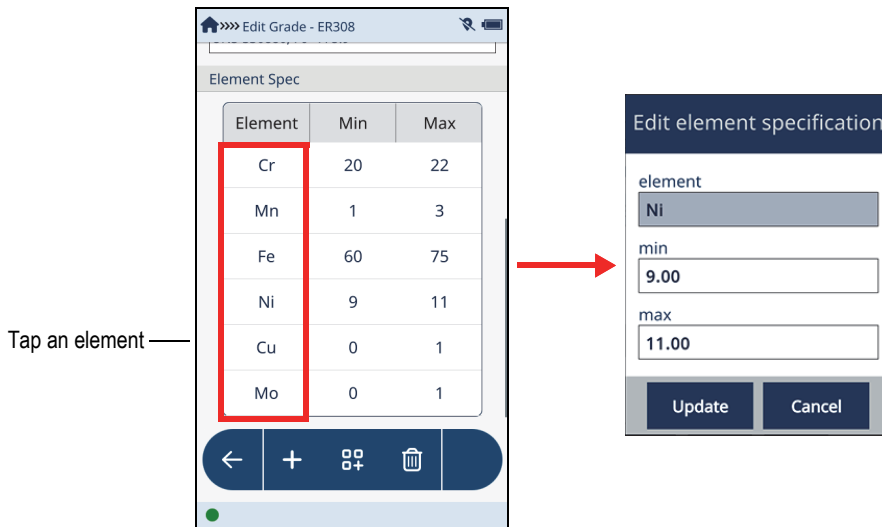

Figure 2-82 Edit Grade screen (left), Edit Element Spec dialog (right)
1. In the **Element Spec** section of the **Edit Grade** screen (see Figure 2-82 on page 94), tap an element to change it in the **Edit Element Specification** dialog box (see Figure 2-82 on page 94).